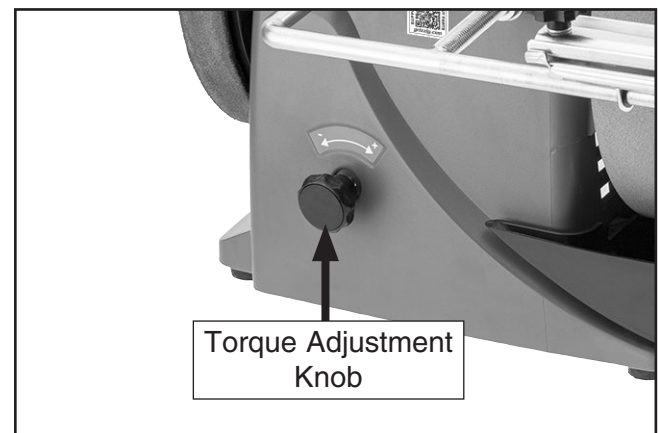

Figure 7. Location of torque adjustment knob.
1. Loosen torque adjustment knob all the way (see **Figure 7**).